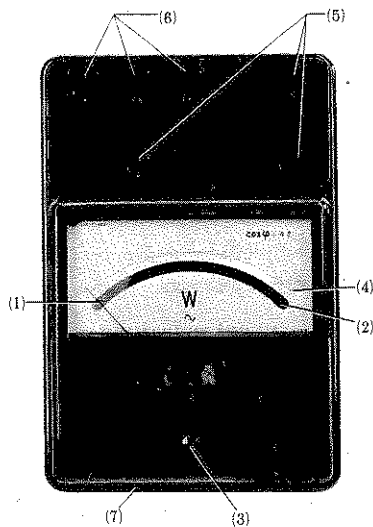
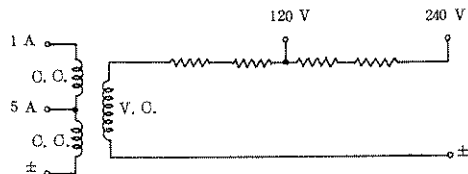

Fig. 1
Fig. 2
The external view and the internal connection of this meter are shown in Fig. 1 and Fig. 2 respectively.
- (1) Place the instrument on a fairly level surface.
- (2) Check the instrument if the pointer rests on the zero (0) position in the scale. If not, turn the zero adjusting screw (Refer to Fig. 1) located on the front cover by using a proper screw-driver until the pointer stays at the zero position
- (3) Make sure the power source is off before making any connection to the circuit to be measured.